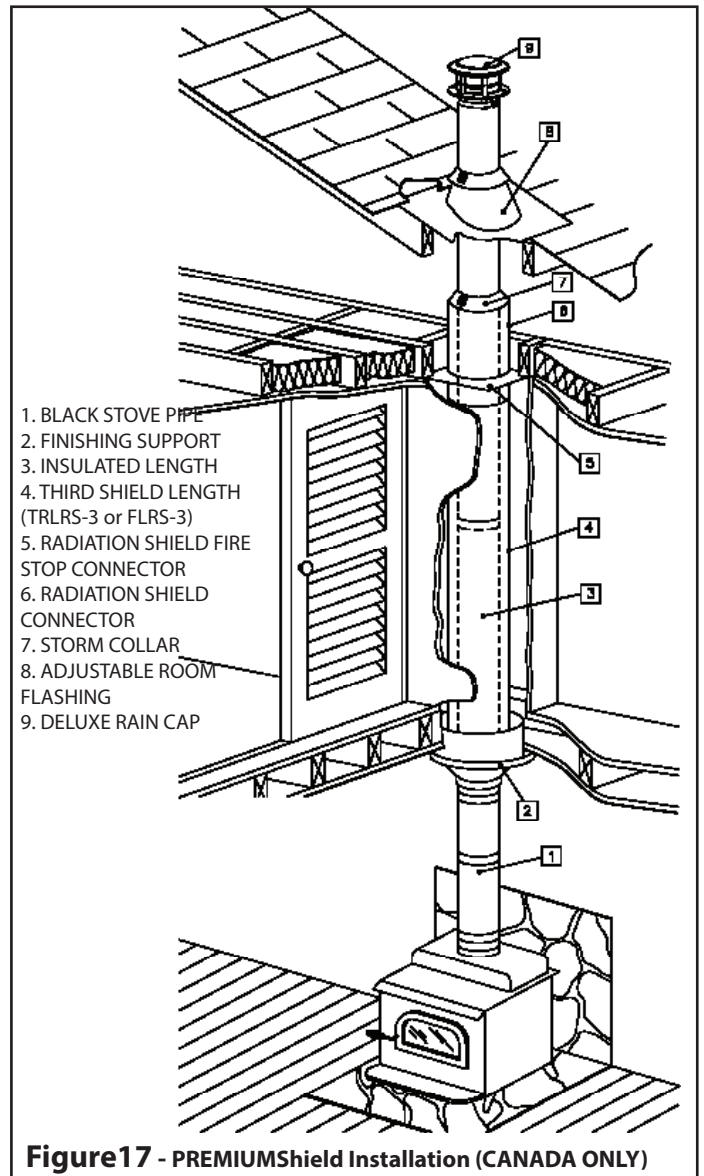

Figure 17 - PREMIUMShield Installation (CANADA ONLY)
Step 5.2: (CANADA ONLY)-FOR ENCLOSED INSTALLATION ON WOOD OR COAL BURNING APPLIANCE (See figure 17), proceed according to Step 5.2A to Step 5.2F below.